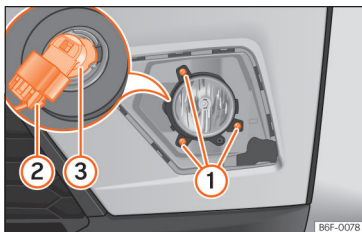

Fig. 106 Fog light: detach the bulb holder
2. Remove the 3 screws »» **Fig. 106** ① and remove the fog light.
3. Remove the bulb connector ②.
4. Turn the bulb holder ③ to the left and pull.